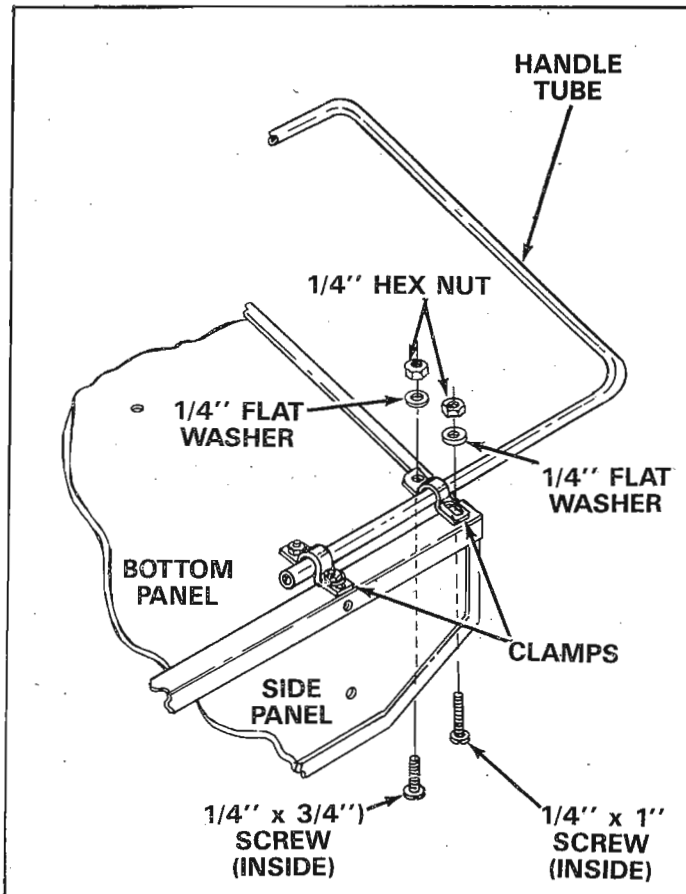

FIGURE 9.
16. Turn the cart upside down. Place the handle tube on bottom of cart as shown in figure 9. Place the four clamps over handle tube with the longer leg of clamp to the outside edge of cart. See figure 9.
The length of the handle tube can be adjusted by sliding in or out before tightening the four clamps. See figure 9.